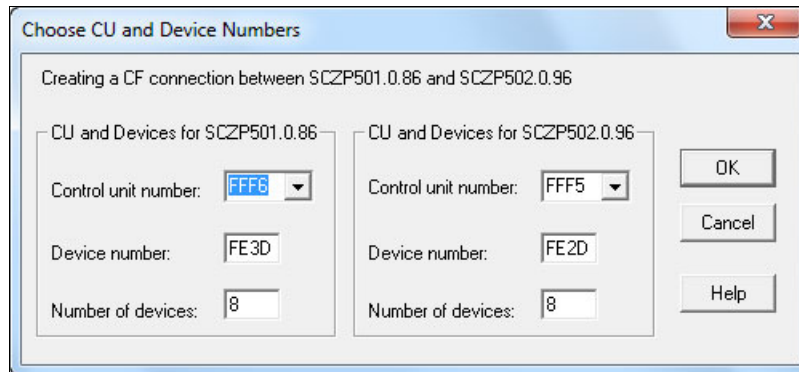

Figure 6-32 HCM - Choose CU and Device Numbers: creating a CF link
20.HCM now suggests control unit and device addresses. Accept or override the control unit and device numbers, then click **OK** (Figure 6-32).